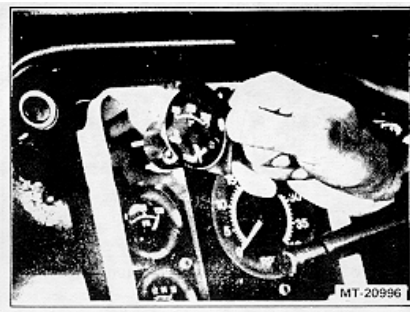

Figure 7 - Removing Electrically Actuated Water Temperature Gauge
2. Individual gauges can now be removed by loosening gauge mounting screws as required. All electrically actuated gauges (Figure 7) are removed from front and have plug-in spring loaded connections.